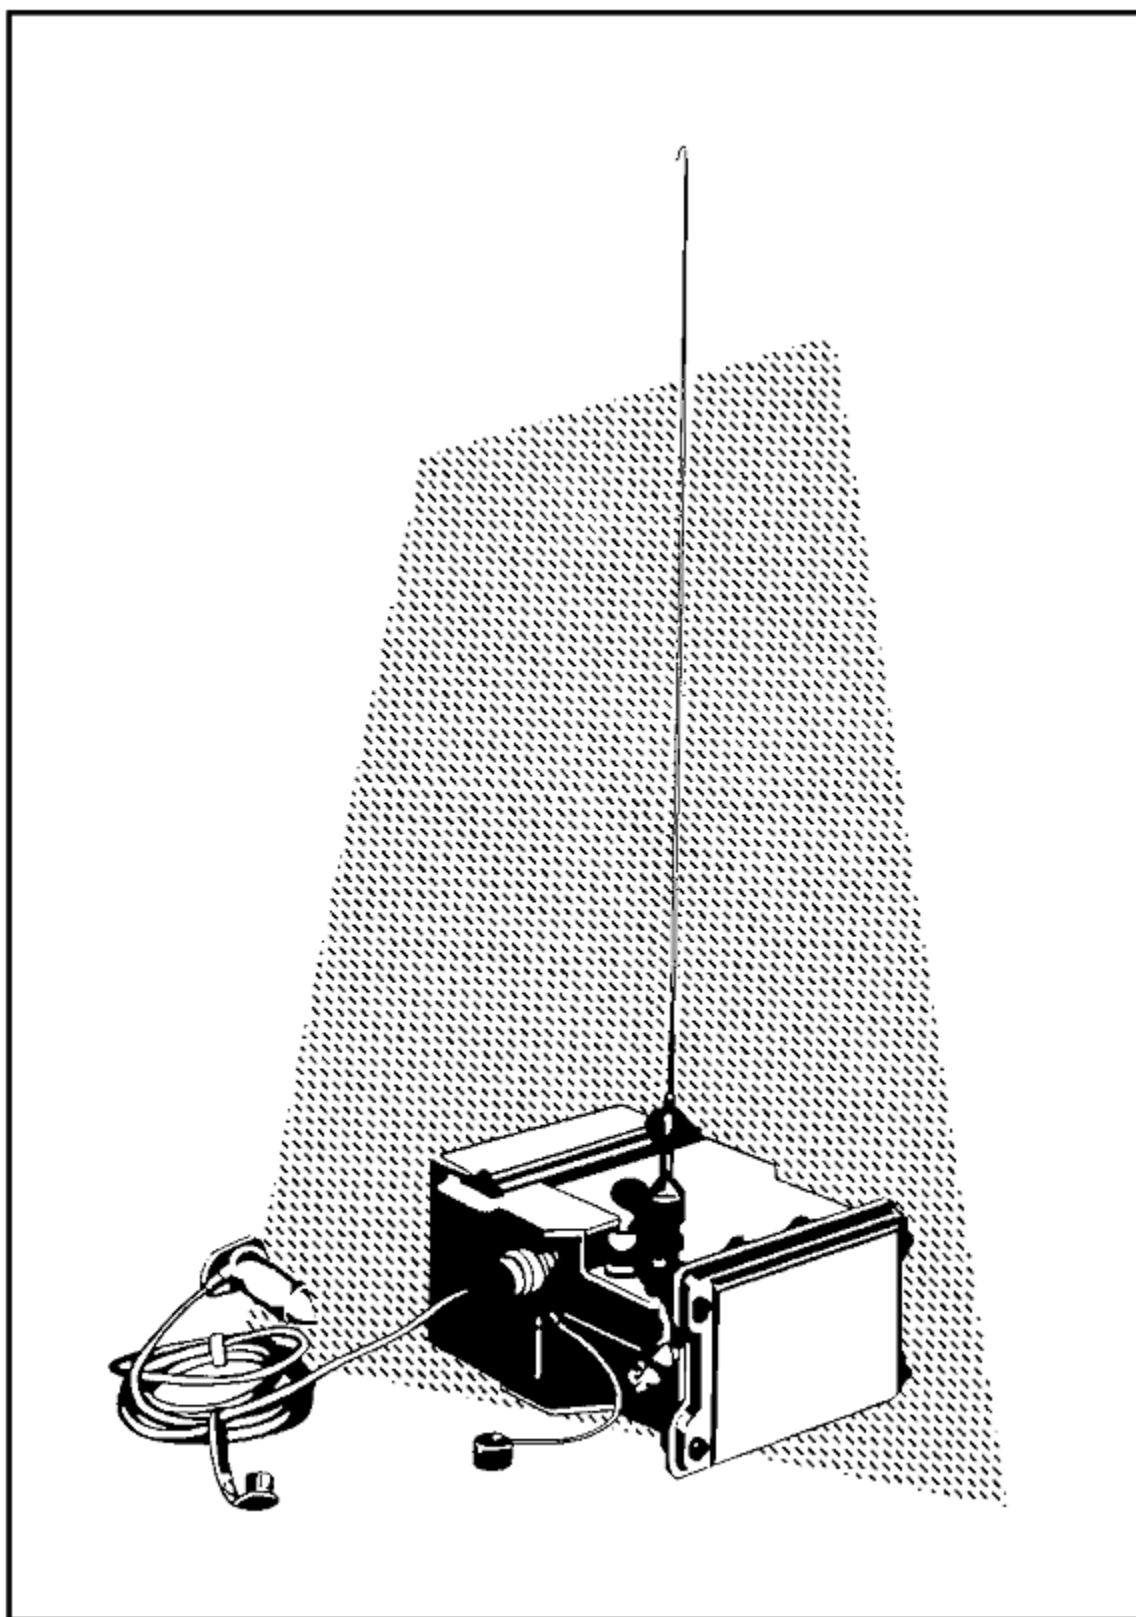

Figure 2-2. Seismic-Acoustic Sensor DT-562/GSQ.
(2) SEISMIC-ACOUSTIC SENSOR DT-562/GSQ (See Figure 2-2)